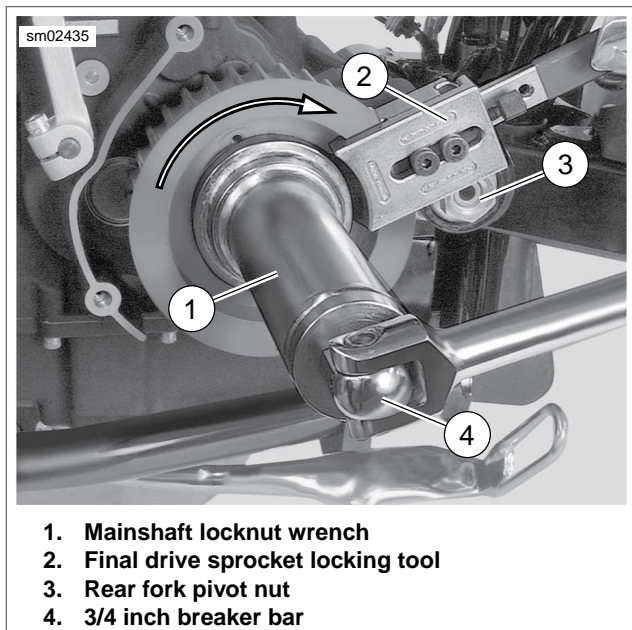

Figure 6-41. Sprocket Nut Installation (Typical)
3. See Figure 6-41. Lock transmission sprocket with the FINAL DRIVE SPROCKET LOCKING TOOL (Part No. HD-46282) (2). Final drive sprocket locking tool must rest against upper portion of rear fork pivot nut (3).
5. Using MAINSHAFT LOCKNUT WRENCH (Part No. HD-47910) (1), tighten sprocket nut to 35 ft-lbs (47.5 Nm) initial torque.